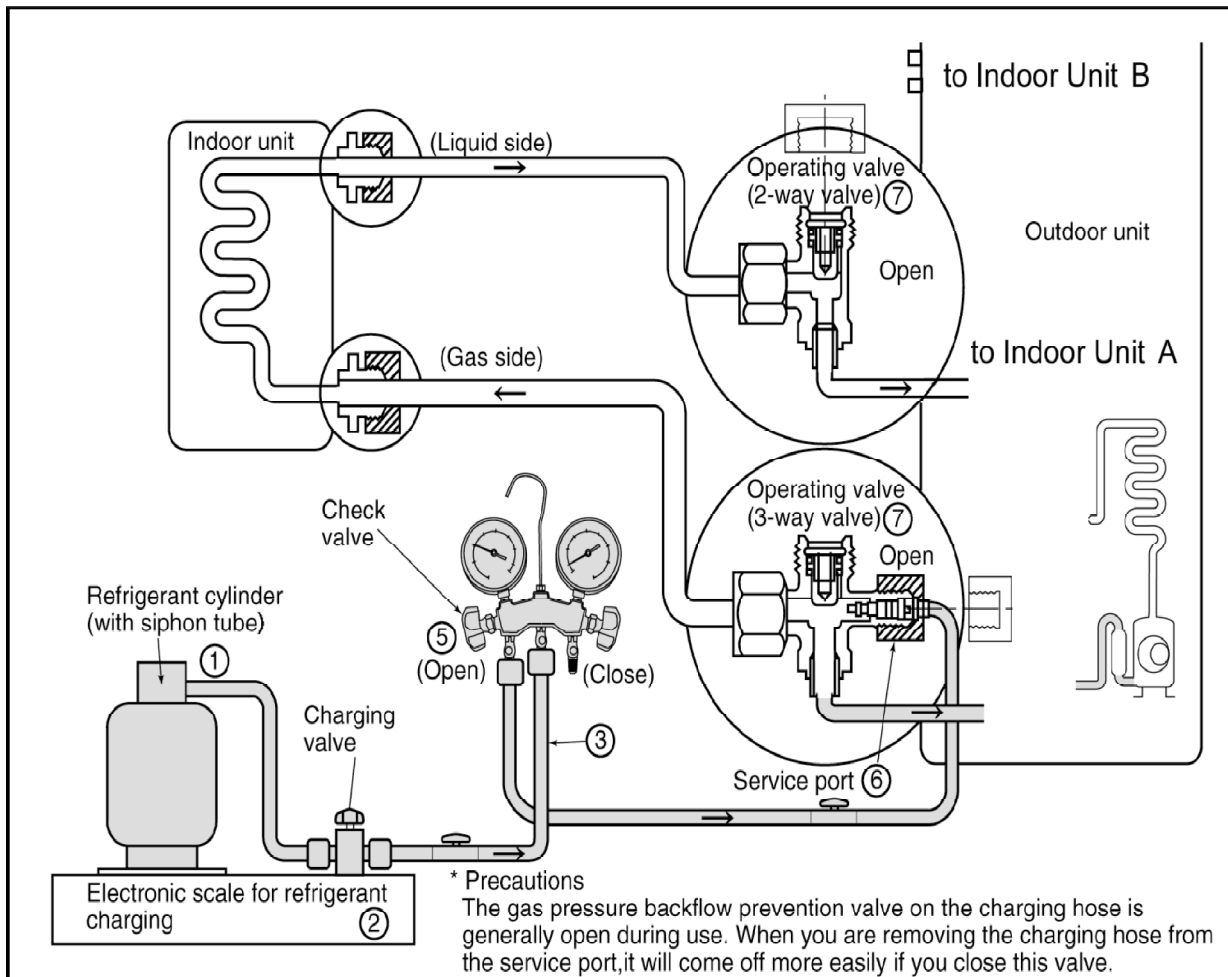

Fig. 13 Re-charging refrigerant
4. Confirm that the low pressure gauge shows a reading of -0.1 Mpa (-76 cmHg), then fully close the handle Lo, and turn off the vacuum pump. Wait for 1-2 minutes, then check to make sure that the needle of the Low pressure gauge has not returned. See Fig. 13 for the remaining steps of this procedure.
- Set the refrigerant cylinder onto the electronic scale, then correct the hose the cylinder and to the connection port for the electronic scale. (1)(2)